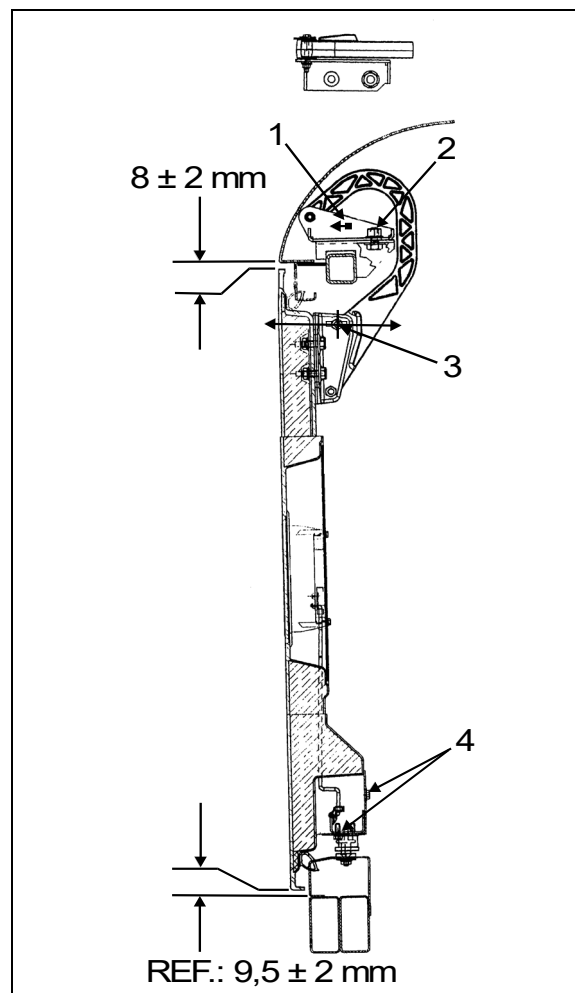

FIGURE 92: DOOR HINGE
1. Open the fuel filler door (1, Figure 92).
2. Loosen the screws (3, Figure 92) holding the panel to hinge (2, Figure 92) assembly.